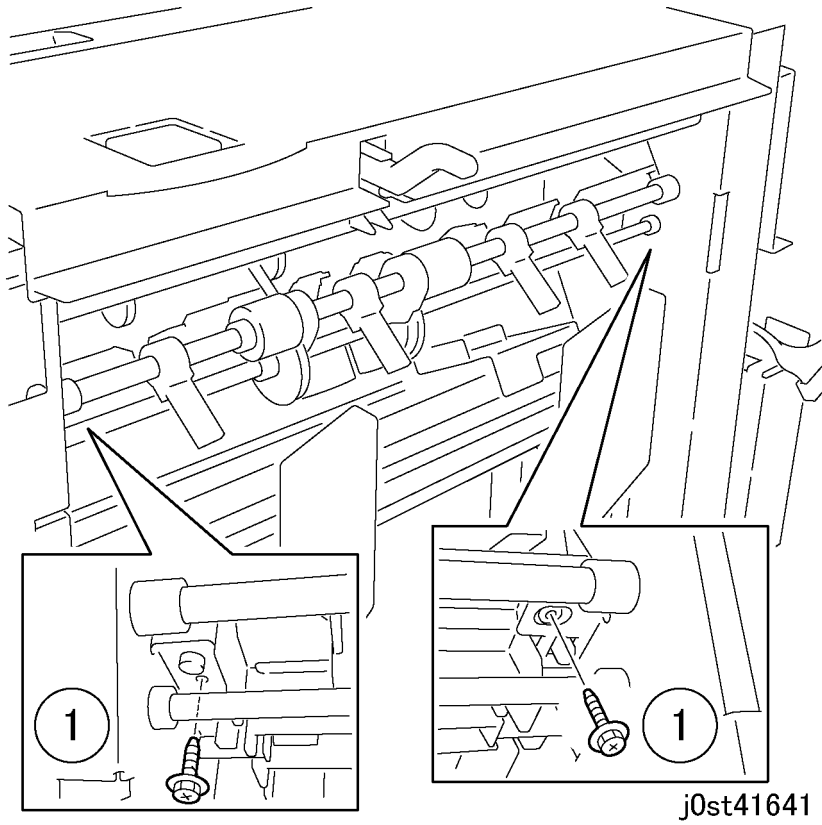

Figure 2 Removing the screws
4. Remove the screws. (Figure 2)